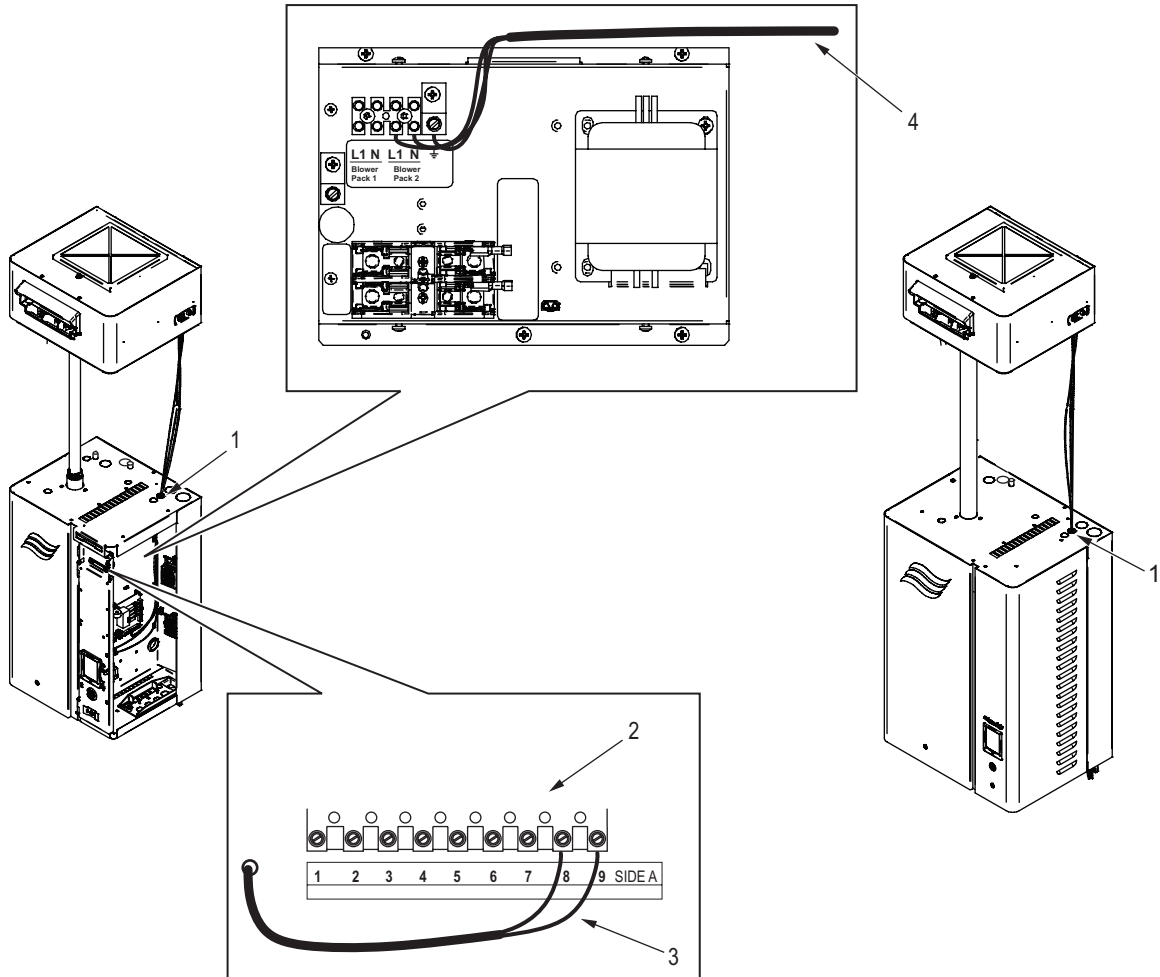

Figure 12: Humidifier Electrical Connections
- b. Punch the knockout hole in the top of the humidifier that is located directly below the Nortec BP-Series blower pack power connector. Refer to Figure 12.
- c. Install a grommet (supplied) in the knockout hole, and route the security loop cable (and the power cable if using the optional power kit described above) through the grommet, as shown in Figure 12.
- e. Run the security loop cable (and power cable, if applicable) along the cable chase and connect the leads to the terminal strips inside the humidifier unit, as shown in Figure 12. Make sure that the line wire in the power cable is connected to "L1", the neutral wire to "N" and the ground wire to "GND" in the terminal strip.